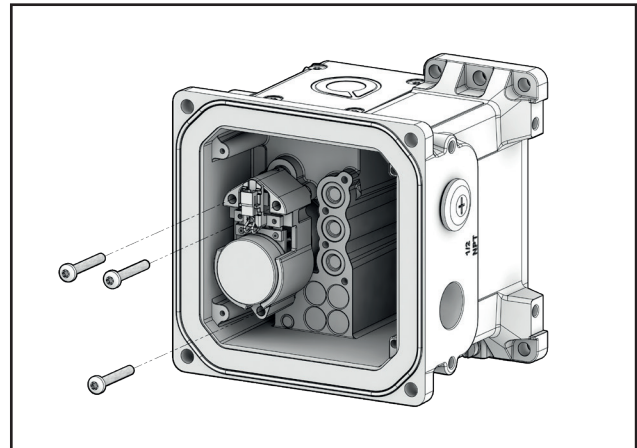

Fig. 75. NDX\_511\_ and NDX\_512\_ prestage location.
- under main cover and LUI module (Fig. 75)